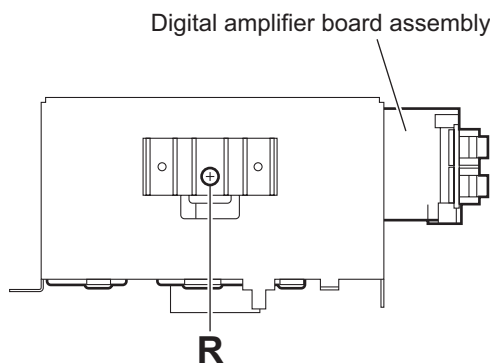

Fig.17
3.1.8 Removing the digital amplifier board (See Figs.17 to 22)
- (1) From the forward side of the digital amplifier board assembly, remove the screw **R**. (See Fig.17.)